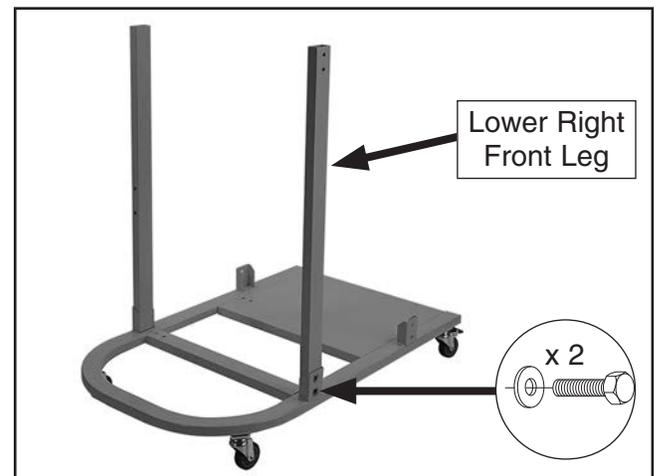

Figure 12. Lower right front leg installed.
4. Attach lower right front leg to base stand and finger-tighten with (2) $\frac{5}{16}$ "-18 x $\frac{3}{4}$ " hex bolts and (2) $\frac{5}{16}$ " fender washers (see **Figure 12**).